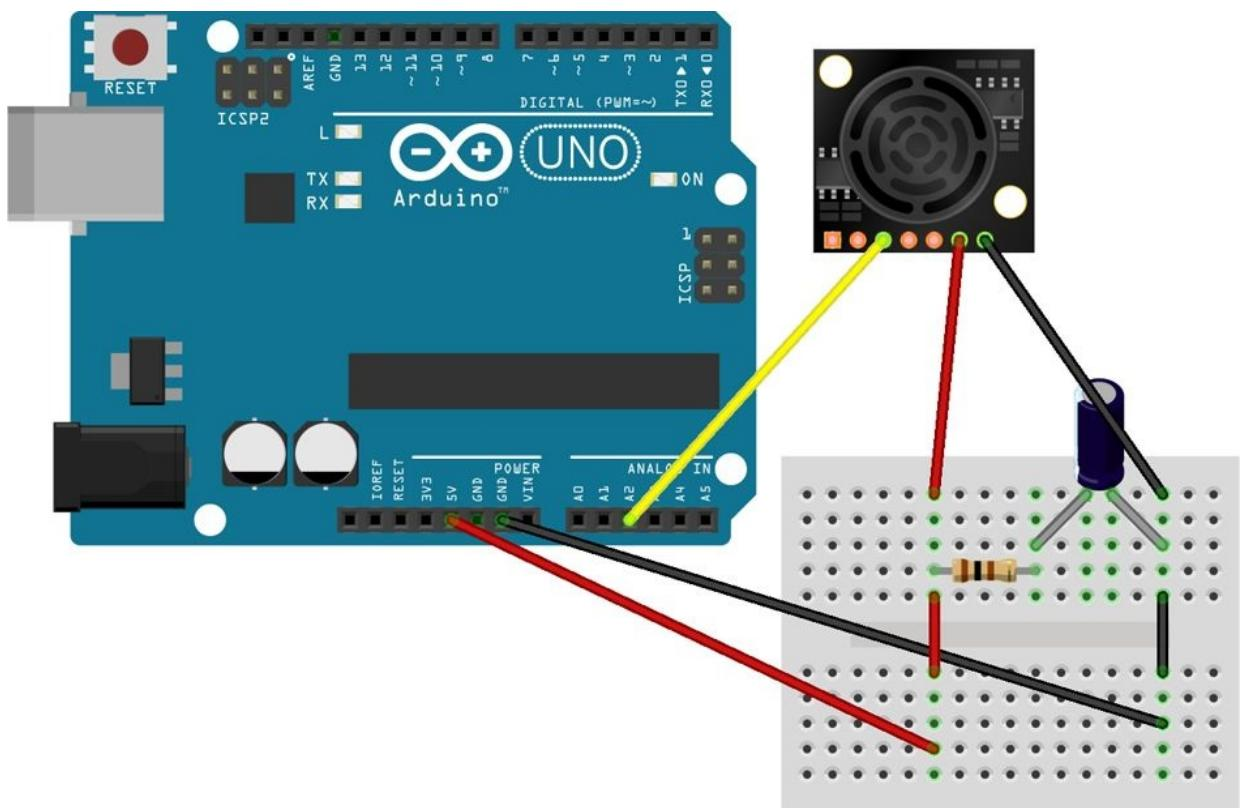

Figure 12-5. Fritzing diagram of sonar sensor array
5. Wire up the sensor array according to Figures 12-5 and 12-6, which will also require the 100 ohm resistor and the 100 uF capacitor.